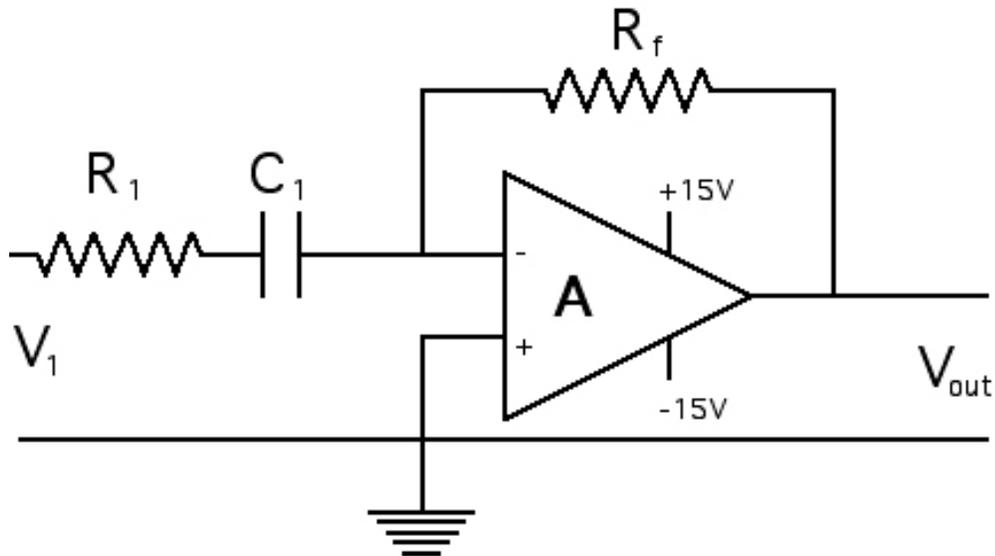

Figure 4.5. Highpass Op Amp Filter Circuit Design
1. Add a $1\ \mu\text{F}$ capacitor, C_1 , in series with the $1\ \text{k}\Omega$ input resistor, R_1 , in the op amp circuit as shown in Figure 4.5.